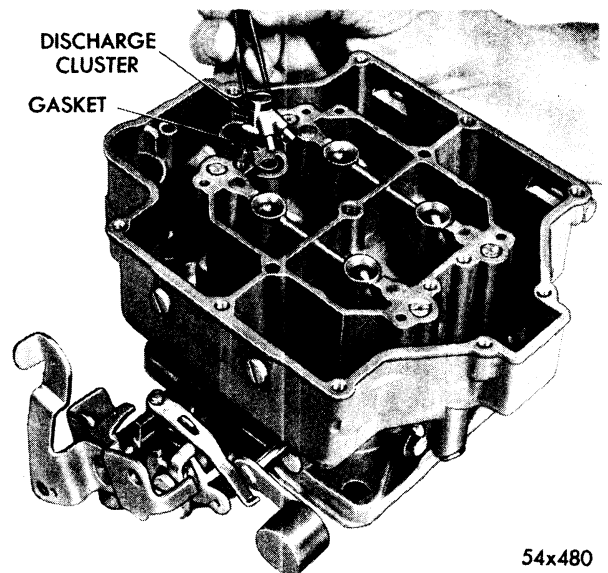

Fig. 23—Removing or Installing Discharge Cluster and Gasket
- (2) Remove the screw from the accelerator pump discharge cluster, then lift off cluster and gasket, as shown in Figure 23.
- (3) Invert the carburetor main body and drop out the accelerator pump discharge check needle.